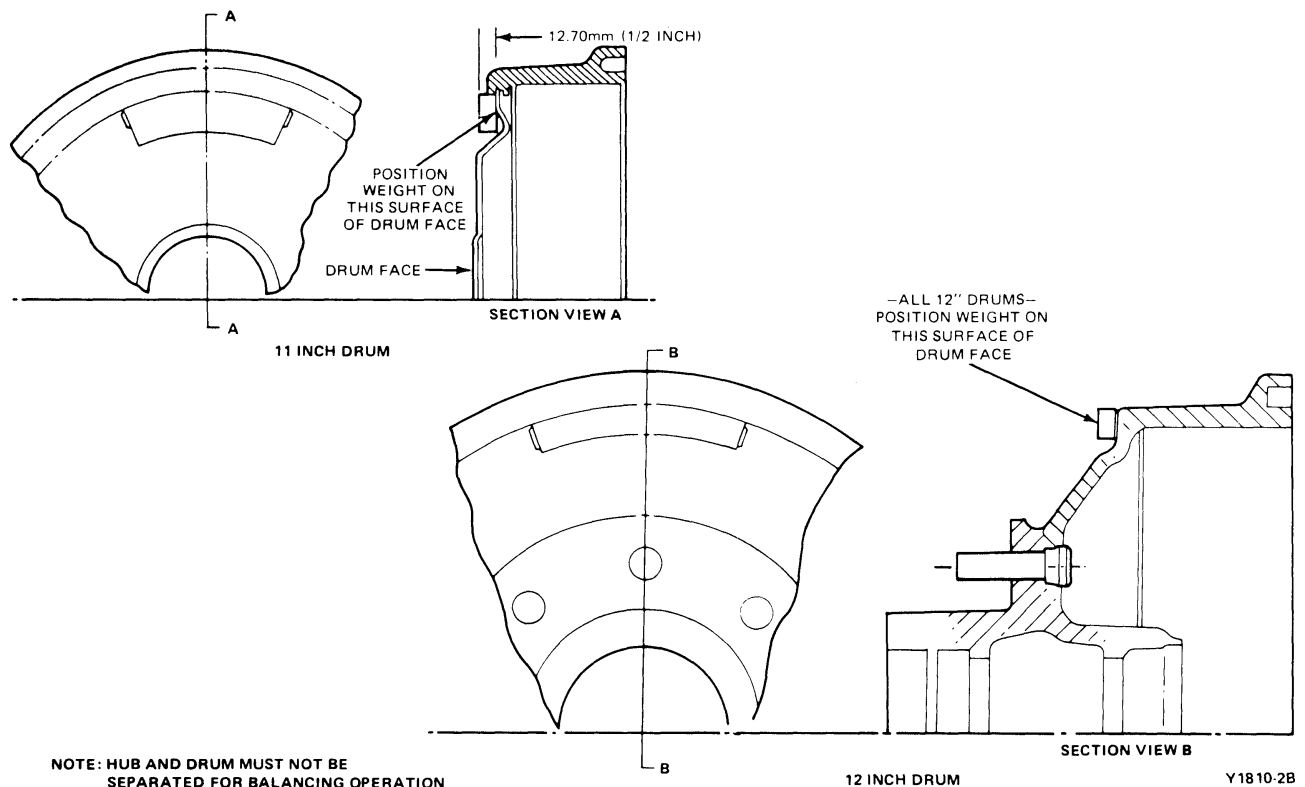

FIG. 2 Drum Weight Weld Pattern
3. Position the drum balance weight on the drum face in the location on the lightside of the drum indicated, as shown in Fig. 2. Arc weld (tacweld 6.35mm or 1/4 inch long) the balance weight to the drum face.